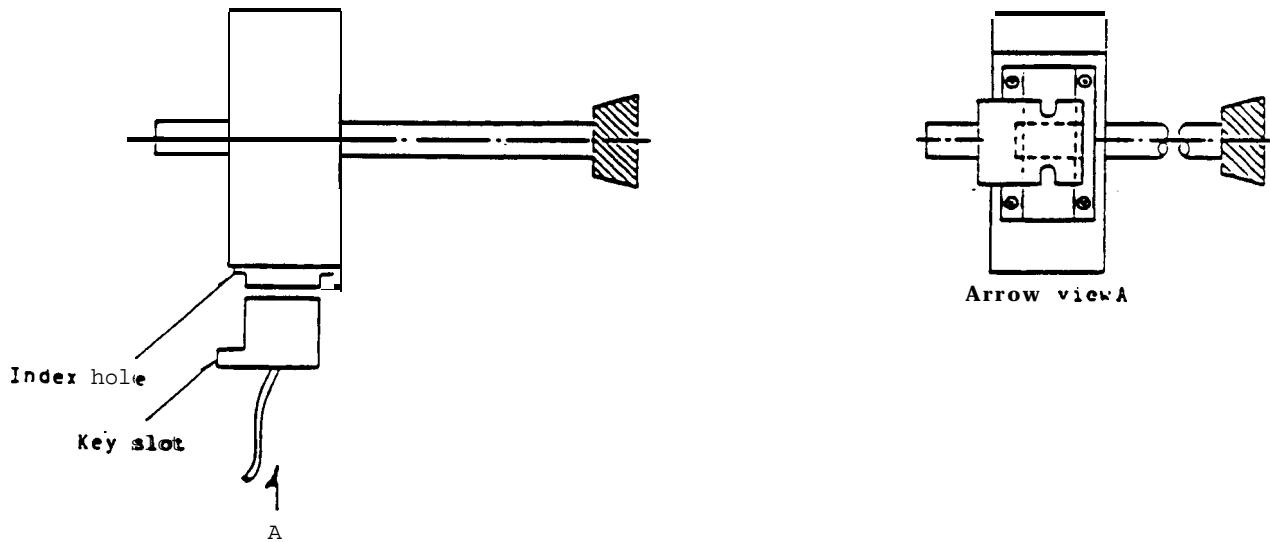
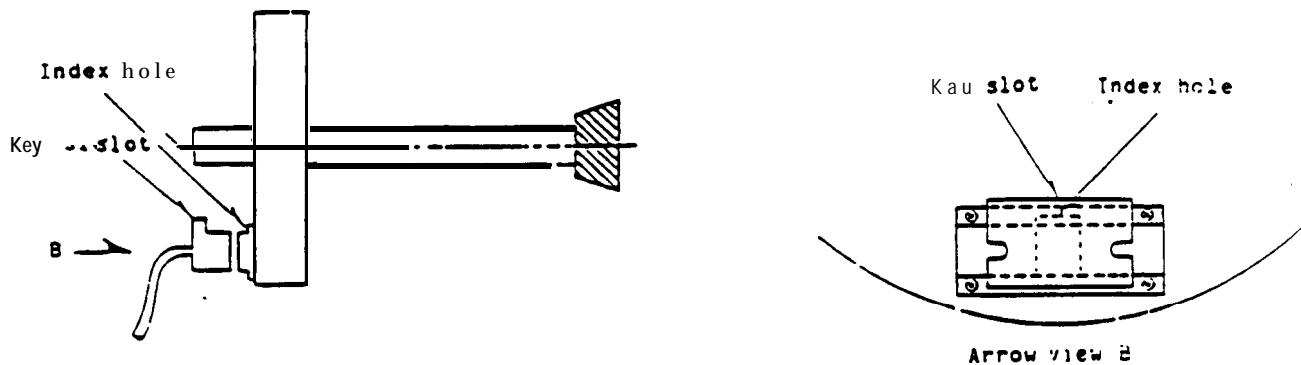
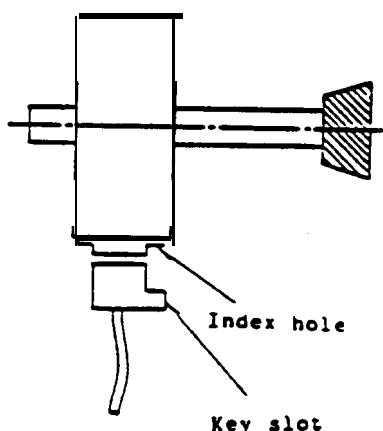

Fig. 6.3 Mounting onto the circumference of a rotating body
Fig. 6.4 Mounting onto a flat surface on the non-load **side** of the rotating body
Fig. 6.6
The mounting directions for the magnet and detection head are specified as shown in Figs. 6.3, 4 and 5.
As shown in Fig. 6.3, mount so that the key slot and index hole point to the non-load side of the spindle.
- (1) When the mounting **surface is** on the non-load side of the spindle, mount so that the index hole and key groove are pointing toward the center side, as shown in Fig. 6.4.
- (1) Orientation will remain normal even if the magnet and detector are mounted, as shown in Fig. 6.6, in the opposite way to that shown in Figs. 6.3, 4 and 5.
- (1) Do not bring strong magnetic objects near the magnet.
- (2) Take care not to subject the magnet to shocks.
- (3) Use M4 screws to secure the magnet rigidly to the spindle.
- (4) Provide the rotational balance of the whole spindle with the magnet mounted.
- (5) Bring the index hole in the center of the magnet **to the** center of the mounting disc and align its direction with that shown in Figs. 6.3, 4 **and** 5.
- (6) **Make** sure that the surroundings are clean so that metal chips and **dust do** not adhere to the magnet and thereby cause errors.
- (7) Paint over the mounting screws to lock them in position so as to avoid any looseness.
- (8) When the **magnet** is to be mounted onto a polished disc, **the** disc may have become magnetized. Steps should therefore be taken to demagnetize it.
- (9) The diameter of the disc onto which the magnet is mounted should be not less than 80 mm and not more than 120 mm. It may be larger if the spindle speed is low.
- (10) When the spindle onto which the magnet is mounted rotates at a speed **higher than 6,000 rpm**, the magnet must be replaced with a high-speed version (which can be used up to 10,000 **rpm**).
- (1) Ensure that the key slot on the detection head and the index hole in the magnet are pointing in the same direction.
- (2) Mount the sensor **so** that the center line on the end of the head and the center of the magnet are aligned (see Figs. 6-3, 4 and 5).
- (3) Refer to Table 1 **for** the size of the gap between the magnet and detector when the **mounting method** in Fig. 6.3 is adopted. Refer to Table 2 when the methods in Fig. 6.4 or 6.5 is employed.
- (4) Although the pre-amplifier connector is oil-proof, it should be mounted where the chances for oil to come into contact with it **are** minimal.
- (5) Lay the cable to the controller from the pre-amplifier at a distance from the power supply circuitry wires so that it is isolated from them.
- (6) First check the connector connections and ensure that the connectors have been inserted properly into the receptacles, and then tighten up their lock screws.